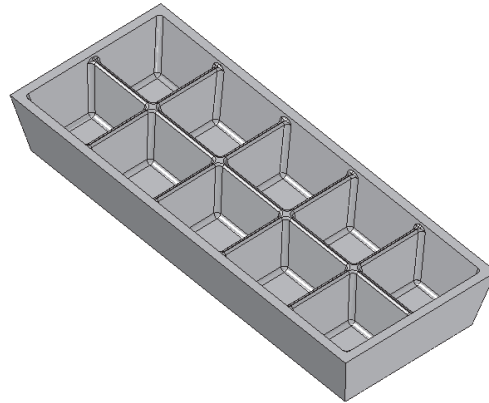

Figure 8-72 Model after adding the rounds
- Add rounds to the sharp edges of the model, refer to Figure 8-72.
2. Next, add a round of 0.5 radius to the top face of the web network. The model, after adding the rounds, is shown in Figure 8-72.